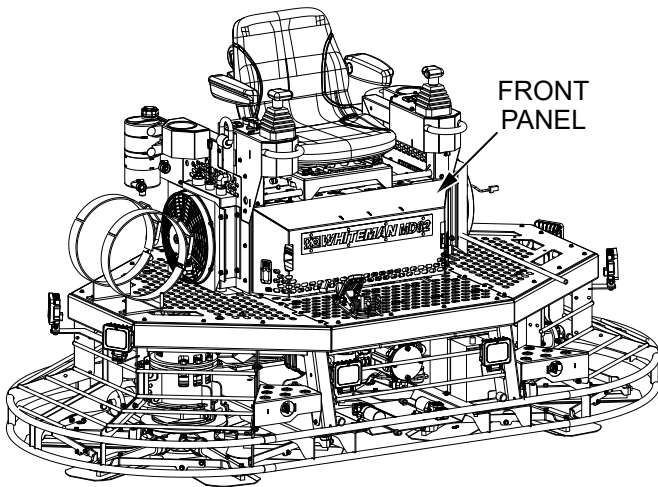

Figure 2. Remove Front Panel
1. Remove the **front panel** (Figure 2).